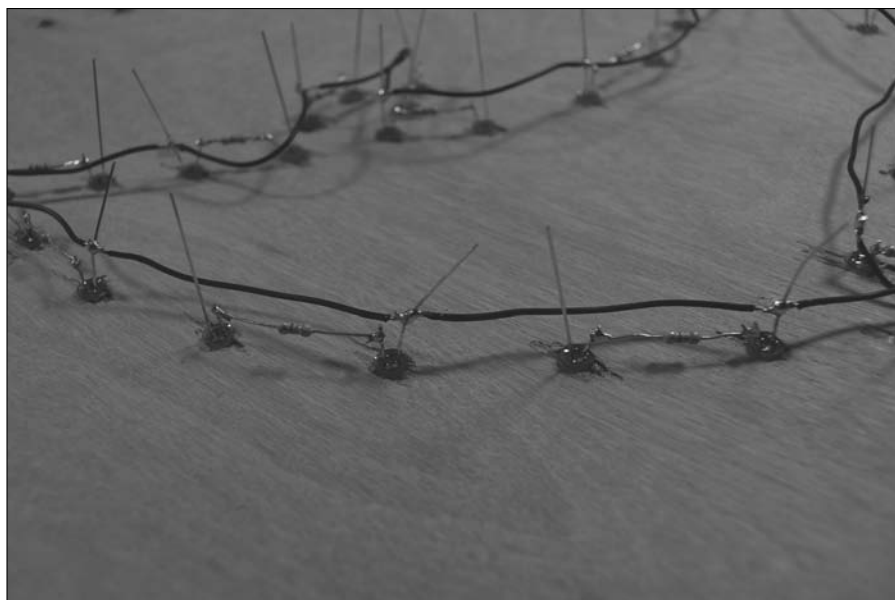

Figure 10-19:
10. Solder the black wires to the leads, as shown in Figure 10-19.